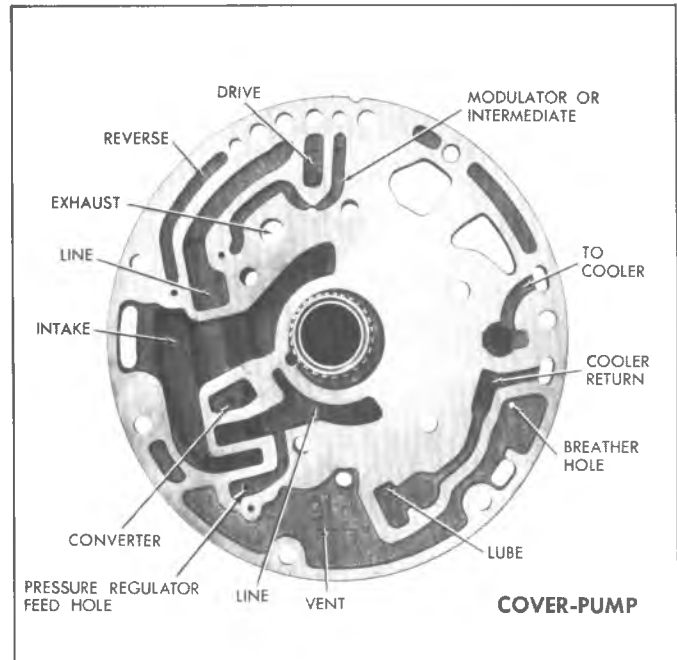

Fig. 58T--Pump Cover Oil Passages
11. Check that all passages are open and not interconnected (fig. 58T).
17. Inspect pump cover for open 1/8" breather hole (fig. 58T).